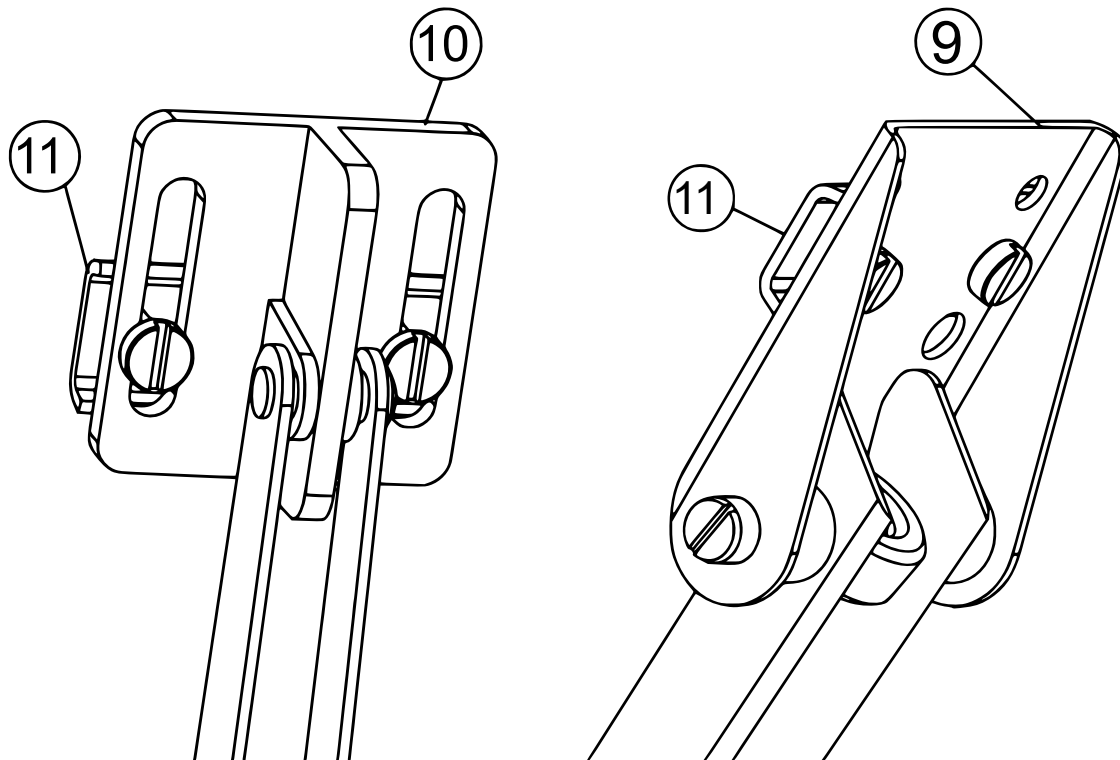
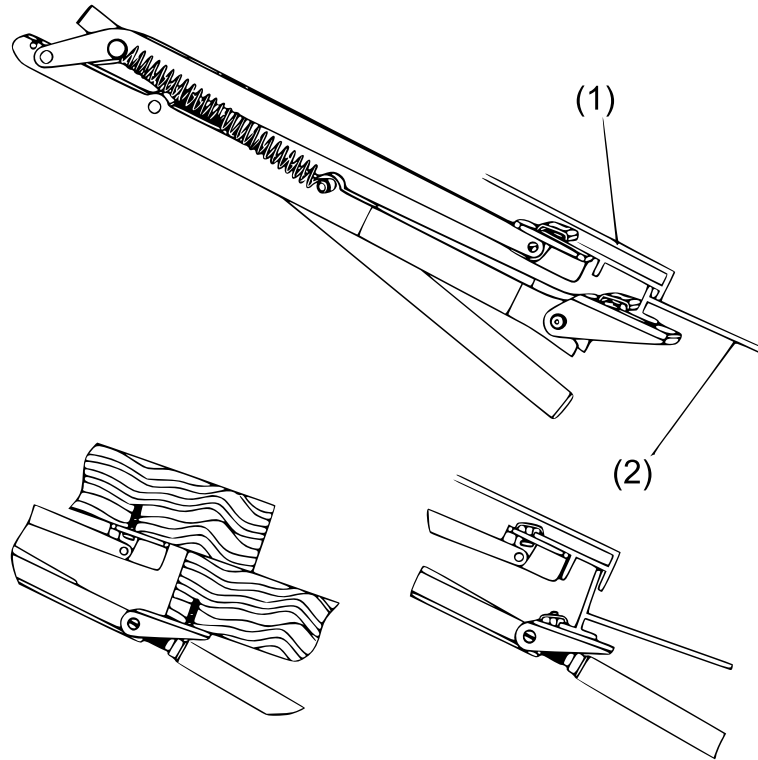

Figure 2
Figure 3
1. With two of the screws included, loosely fix one clamp **(11)** to the window-holder **(10)** (Fig. 2). With a greenhouse made of wood, you can screw the clamps directly into the wood (Fig. 3).
2. Attach the other clamp to the suitable pair of holes of the frame-holder **(9)**. Make sure that the upper edge of the frame-holder is as near as possible to the edge of the window-holder (examples see Fig. 3).